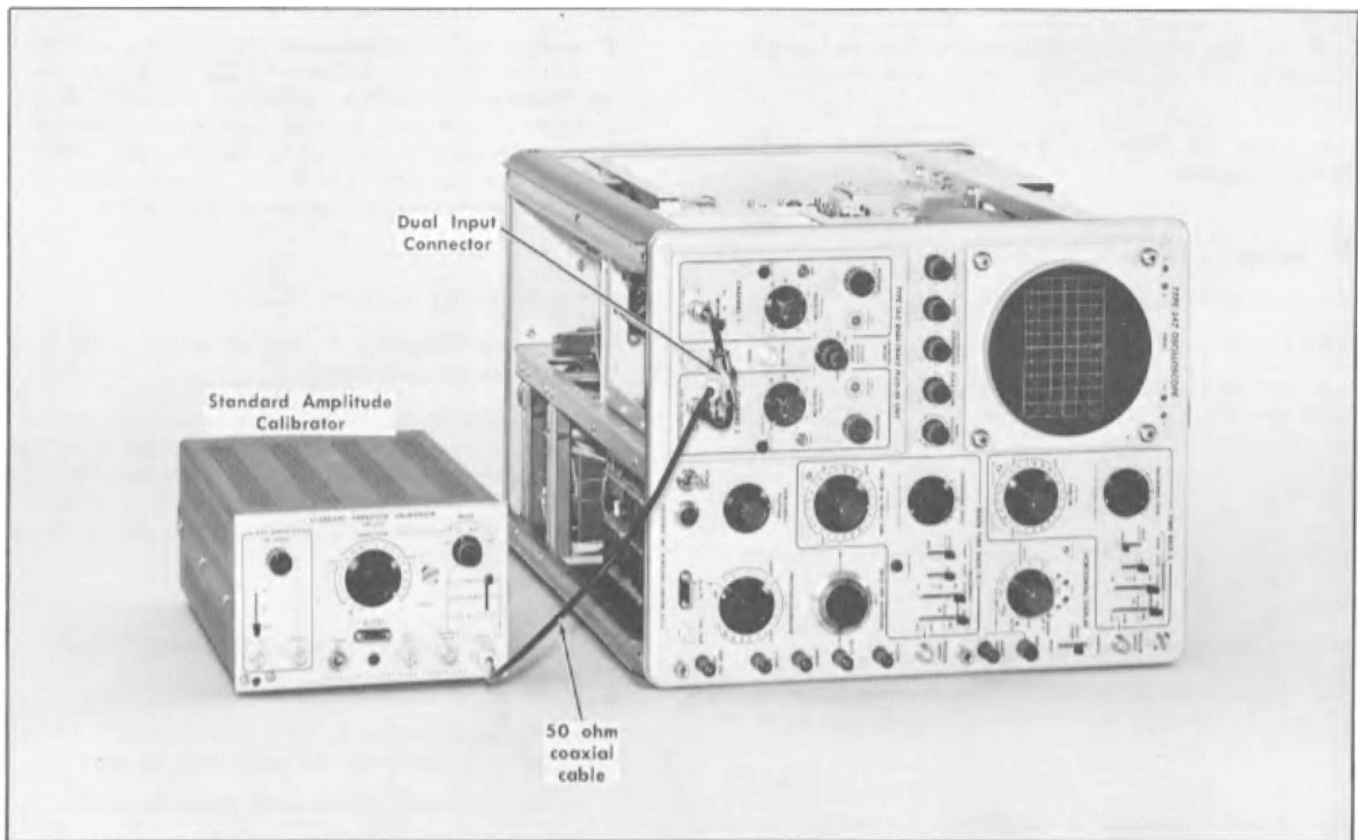

Fig. 7-6. Initial equipment setup for steps 5 through 16.
- Equipment setup is shown in Fig. 7-6.
- Apply a 0.2 volt calibrator signal from the Standard Amplitude Calibrator to both INPUT 1 and INPUT 2 connectors through a 50 ohm coaxial cable and the Dual Input Coupler. (See the note after item 2 in Equipment Required.)